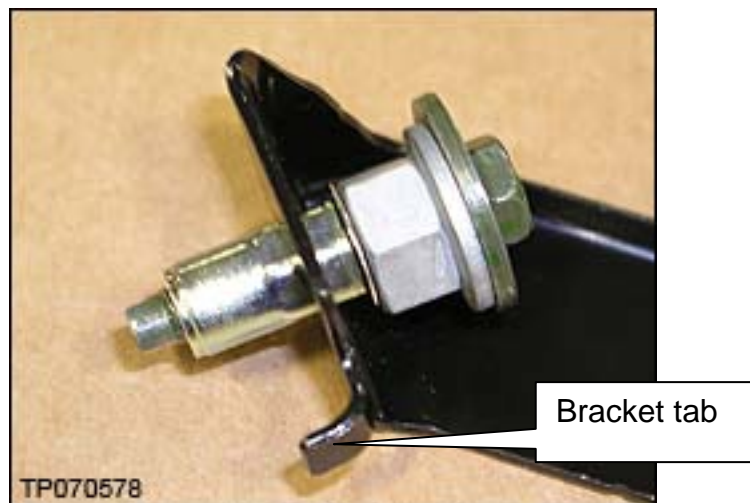

Figure 5
- c. Install / push the nut and bolt assembly into the bracket as shown in Figure 5.